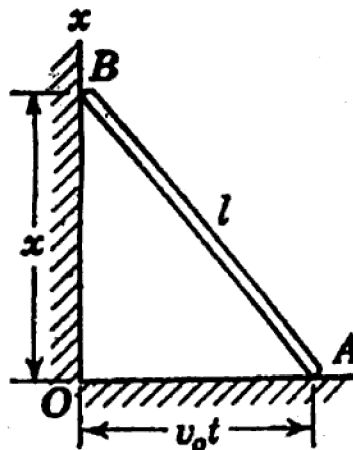

Fig. 7
10. a) A slender bar AB of length l which remains always in the same vertical plane has its ends A and B constrained to remain in contact with a horizontal floor and a vertical wall, respectively as shown in Fig. 7. The bar starts from a vertical position and the end A is moved along the floor with constant velocity v_0 so that its displacement $OA = v_0 t$. Find the displacement time and acceleration time equations for the vertical motion of the end B of the bar. 8